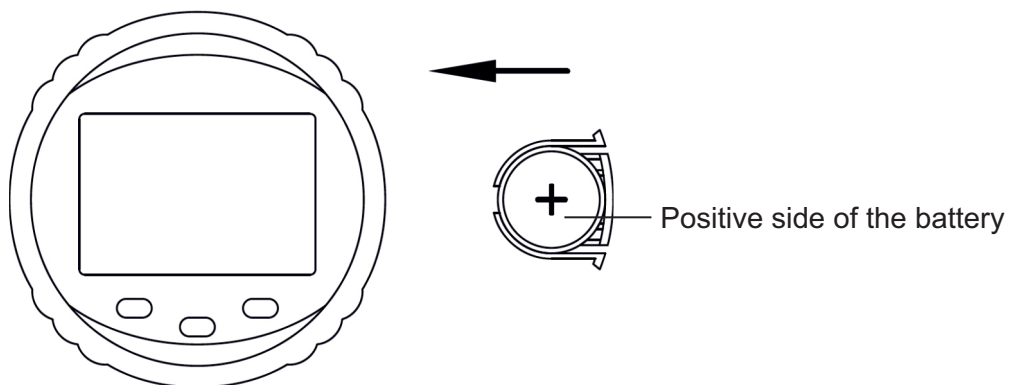

Fig. 1
- » Remove the battery cover and insert a CR2032 battery with the positive side (+) facing up (see Fig. 1).